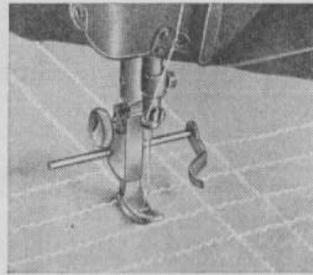

FIG. 44
*b. with adjustable guide presser foot for narrow spacing:* Remove hinged zig-zag presser foot and install narrow presser foot with guide attachment seen in fig. 44. Leave presser foot in raised position.